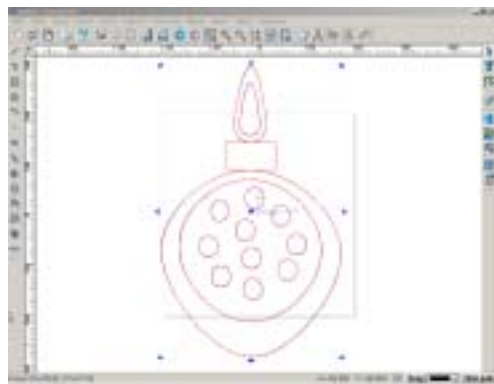

Fig. 12-8
5. Select the symbol, and click on the shortcut icon  in Tool Path Bar or click Tool path->Profile Machining command in the menu bar. Then the dialog in Fig. 12-7 is displayed. Set the parameters. Click on OK to validate the setup and Fig. 12-8 shows the result.